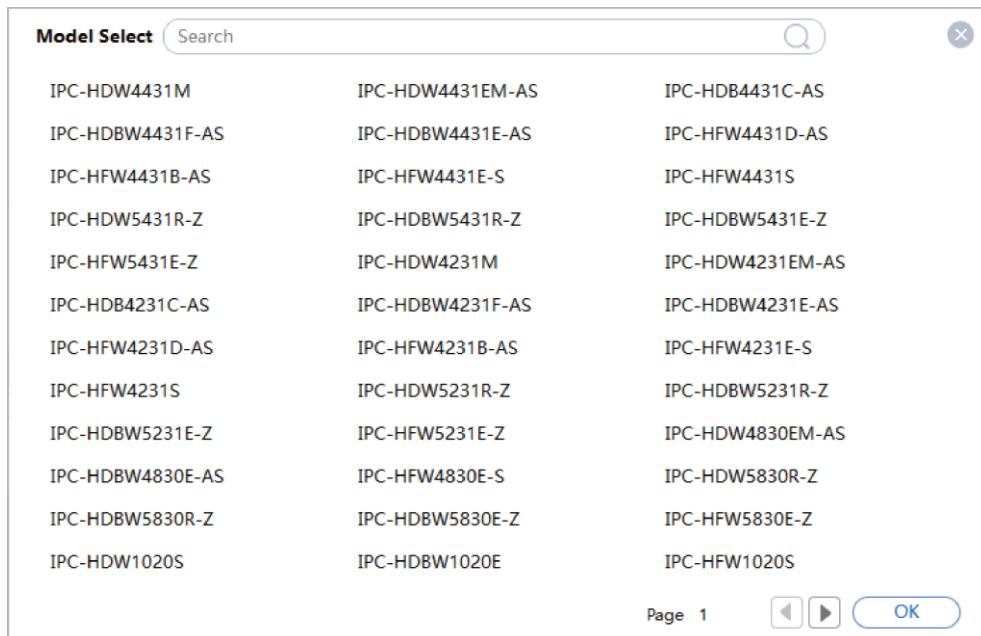

Figure 2-3
- If you select **Model Select**, the **Model Select** interface is displayed, see Figure 2-3. Select the target model and then click **OK**.